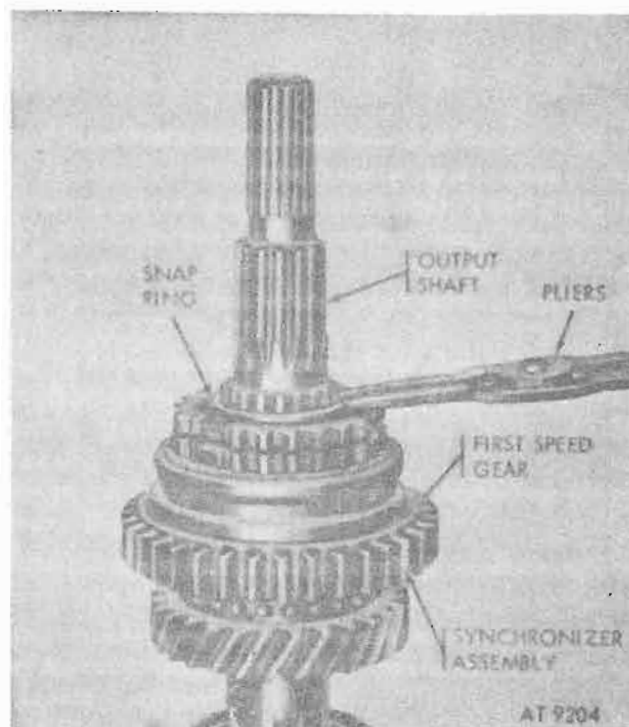

Figure 8-71. First and second speed gear synchronizer.
e. Reverse shaft in fixture and remove first and second speed gear synchronizer assembly snapping from output shaft (fig. 8-71).
g. Install second-speed synchronizer assembly to output shaft and secure by positioning snapping in groove of shaft. Refer to figure 8-71.